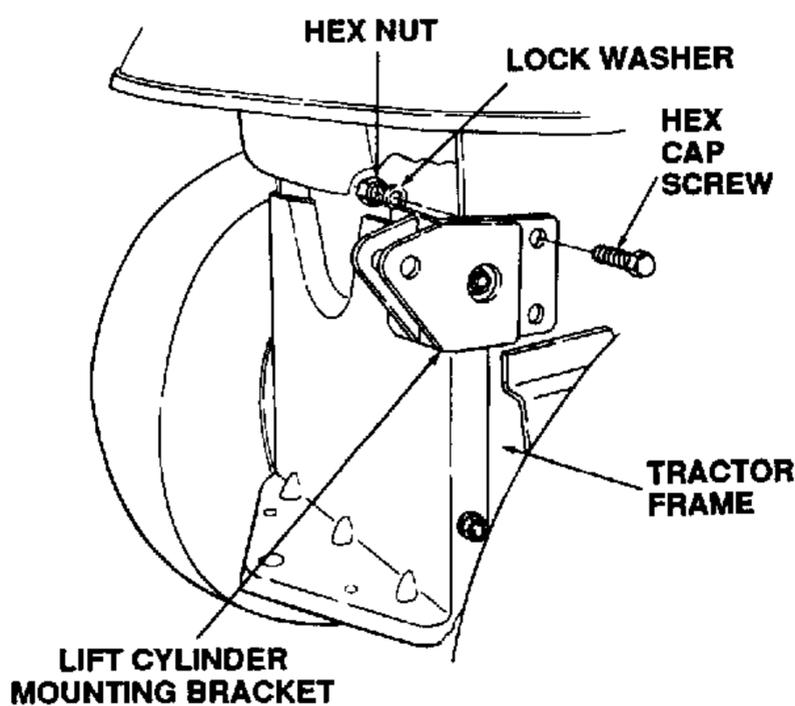

Figure 7-46. Installing Lift Cylinder Mounting Bracket.
- a. Assemble the lift cylinder mounting bracket (1) on the right rear of the tractor frame as shown in Figure 7-46. Snugly secure the bracket with the two hex cap screws (18), lock washers (20) and hex nuts (21).
- d. Install the lift cylinder mtg. bracket (1) onto the right rear of the tractor frame as shown in Figure 7-46. Secure the bracket to the right side of the frame with the two hex cap screws (18), lock washers (20) and hex nuts (21). Secure the bracket to the drawbar with the two hex cap screws (13), lock washers (14) and hex nuts (15).